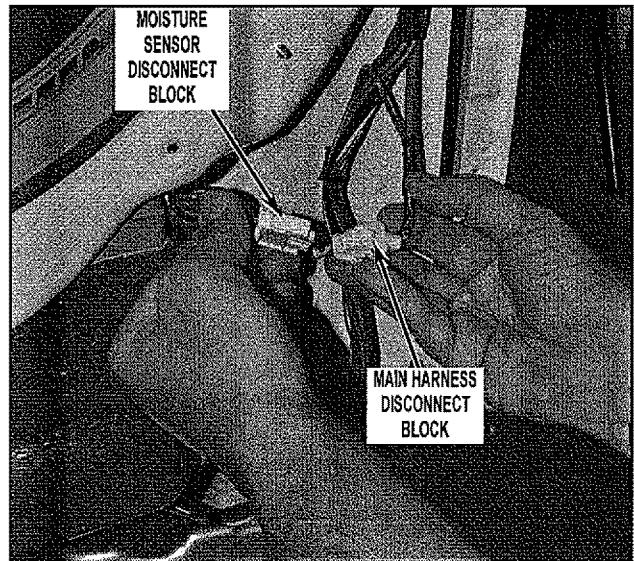

FIGURE 10
- Disconnect moisture sensor disconnect block from main harness disconnect block located at lower right side of dryer. See *Figure 10*.